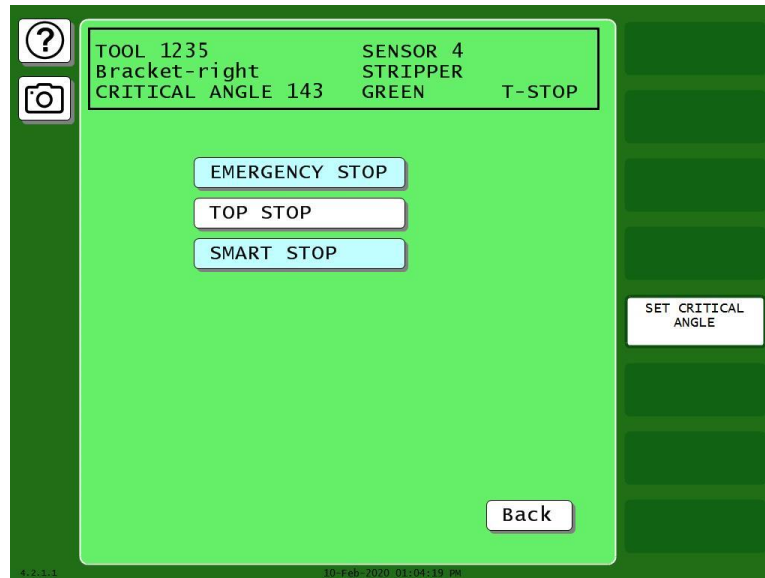

Figure 5-37. Sensor Stop Type Screen
4. Select the sensor type (i.e., GREEN, GREEN QUICK CHECK, or GREEN CONSTANT). The Sensor Stop Type screen displays, Figure 5-37.